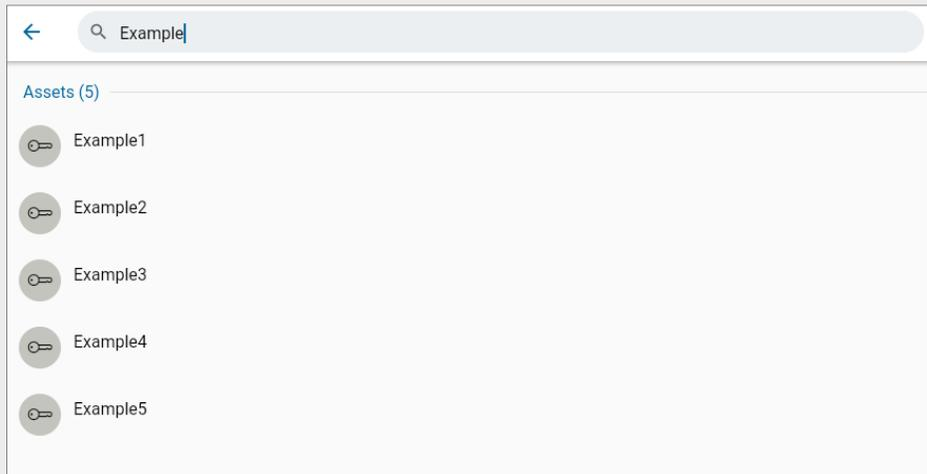

Fig. 86 – Search for an imported asset
- 🔑 You can do this by entering the asset name/stock number in the search bar, as shown in Fig. 86.